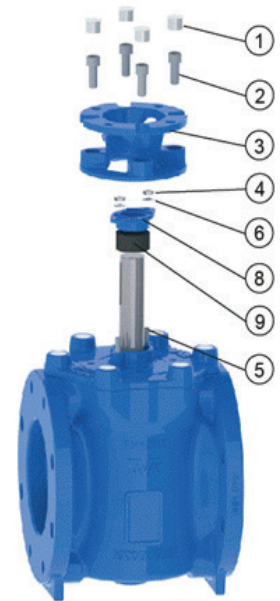

Fig. 15
**Table 1 - recommended bolt torques****7.1 Packing adjustment (Figure 15)**
2. Tighten the two gland nuts (4) on gland (8) to stop the leakage.
## 7.2 Packing replacement (Figure 15)